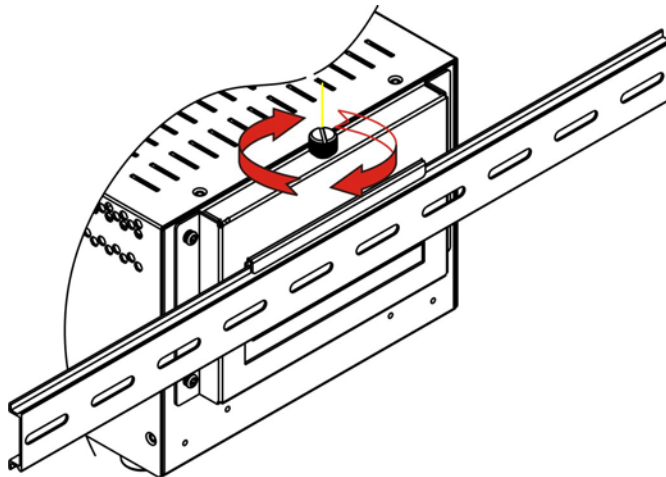

Figure 4-17: Secure the Assembly to the DIN Rail
- Step 4:** Secure the DIN rail to the mounting bracket by turning the top screw clockwise. This draws the lower clamp up and secures the embedded system to the DIN rail (Figure 4-17).